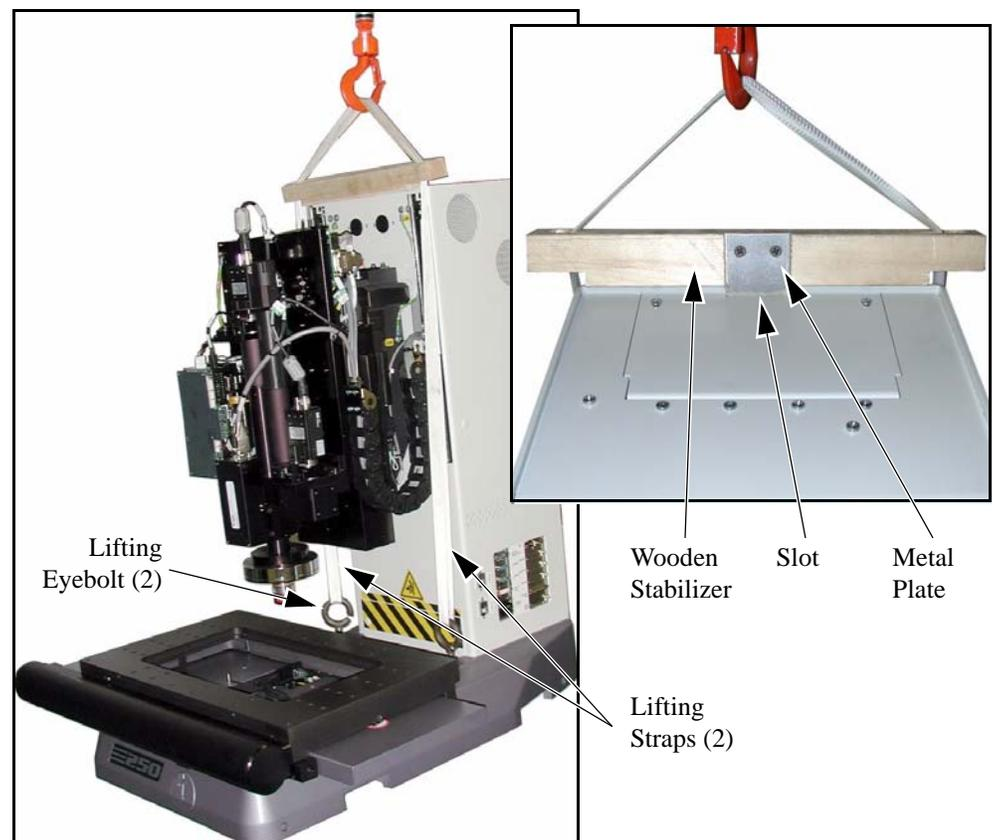

Figure 4-2 Lifting the Machine
Note: The machine is now fully exposed, resting on a foam insert. Note the lifting straps (2), wooden stabilizer, and lifting eyebolts (2) attached to the machine (see Figure 4-2 on the next page).